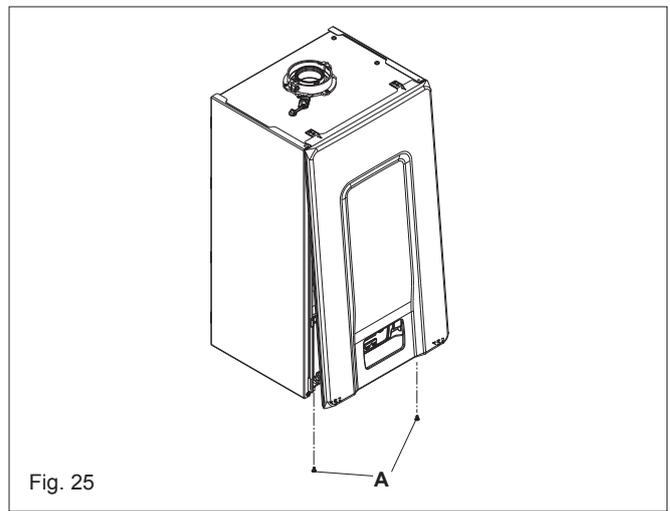

Fig. 25
- Remove the casing as indicated in the paragraph "7.10 CASING REMOVAL ("Fig. 25")".
## 7.10 CASING REMOVAL ("FIG. 25")
- Remove the casing as indicated in paragraph "7.10 CASING REMOVAL ("Fig. 25")"
- Remove the mixer clip (A).
- Loosen the gas ramp nut (B).